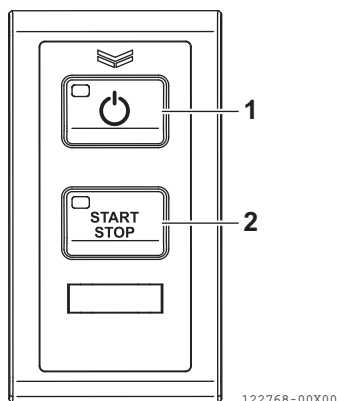

Figure 78
4. Press the Power switch on the switch panel of the selected station (**Figure 78, (1)**).
9. Press the Engine START/STOP switch (**Figure 78, (2)**) and power on the starter.